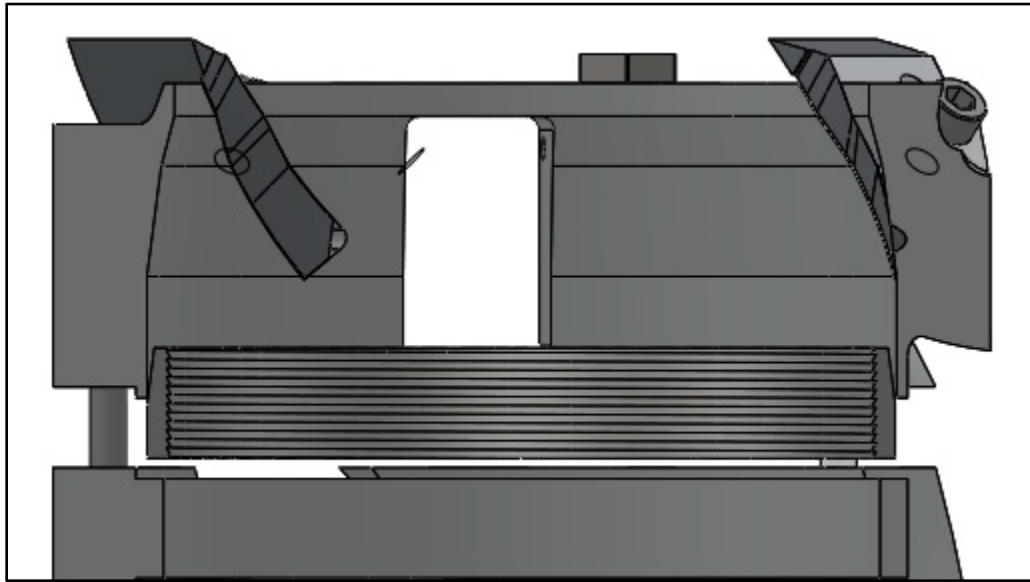

Figure 7: Installing the Collet
7.3.1 Removing core dogs (Figure 7):